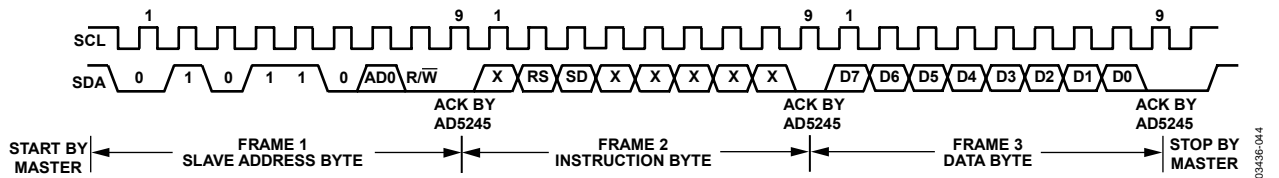
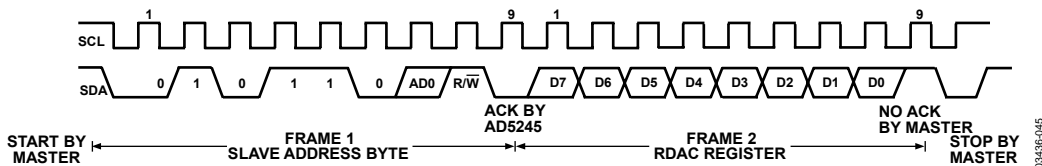

Figure 45. Writing to the RDAC Register
Figure 46. Reading Data from a Previously Selected RDAC Register in Write Mode
1. The master initiates data transfer by establishing a START condition, which is when a high-to-low transition on the SDA line occurs while SCL is high (see Figure 45). The next byte is the slave address byte, which consists of the 7-bit slave address followed by an R/W bit (this bit determines whether data is read from or written to the slave device). The AD5245 has one configurable address bit, AD0 (see Table 8).
3. After acknowledging the instruction byte, the last byte in write mode is the data byte. Data is transmitted over the serial bus in sequences of nine clock pulses (eight data bits followed by an acknowledge bit). The transitions on the SDA line must occur during the low period of SCL and remain stable during the high period of SCL (see Figure 45).
4. In read mode, the data byte follows immediately after the acknowledgment of the slave address byte. Data is transmitted over the serial bus in sequences of nine clock pulses (a slight difference with write mode, in which eight data bits are followed by an acknowledge bit). Similarly, the transitions on the SDA line must occur during the low period of SCL and remain stable during the high period of SCL (see Figure 46).
5. After all data bits have been read or written, a STOP condition is established by the master. A STOP condition is defined as a low-to-high transition on the SDA line while SCL is high. In write mode, the master pulls the SDA line high during the 10th clock pulse to establish a STOP condition (see Figure 45). In read mode, the master issues a no acknowledge for the ninth clock pulse (that is, the SDA line remains high). The master then brings the SDA line low before the 10th clock pulse, which goes high to establish a STOP condition (see Figure 46).